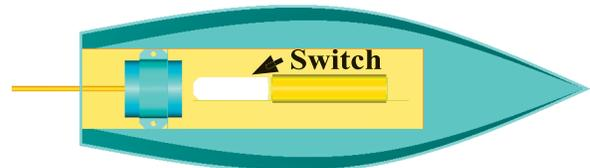

Fig. 50
Step 5. Click the switch solid, **Fig. 50**.